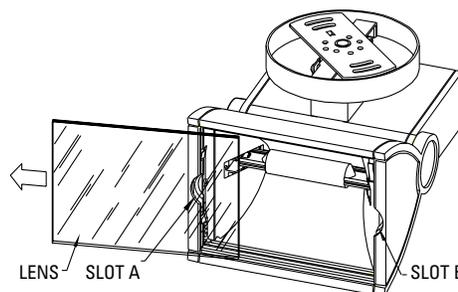

FIG. 7
4. Slide glass out of SLOT B by pulling the LENS in the direction of SLOT A (See FIG. 7).